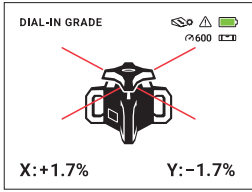

Fig.18
- Press the **dial-in grade button** on the remote control to confirm the grade. The LCD screen will display the set grade (Fig.18) and the laser level will adjust to that grade.